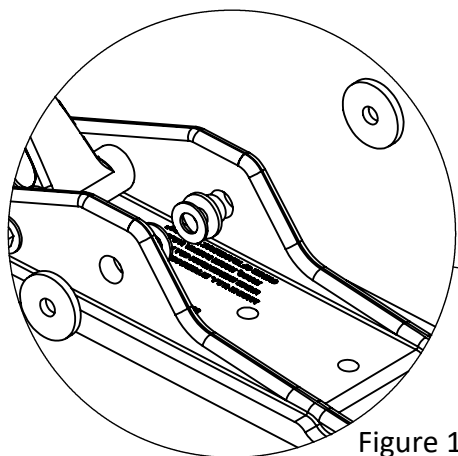

Figure 1
5. Place two bushings into the inner saddle of the ski and push outward into the saddles, they will fit very tightly. (see Figure 1)